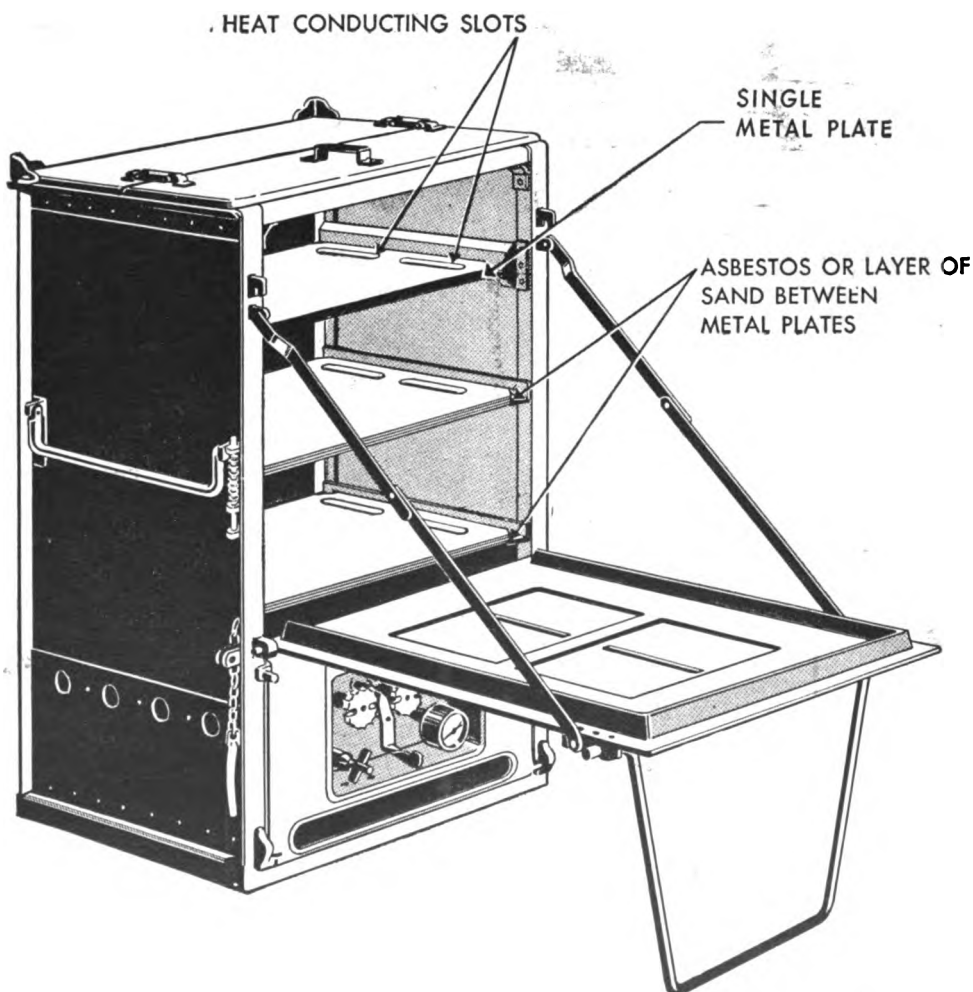

Figure 37. Range, field, M1937, adapted for baking bread.
a. METHOD NO. 1. (BREAD AND PASTRY). (1) The most satisfactory method of adapting the range for baking bread is to construct three solid shelves and fit them to the rails in the range. (See fig. 37). This method triples the ordinary baking capacity of the range.
the side and  $1\frac{1}{4}$  inches from the ends. Cut the front corners  $1\frac{1}{2}$  inches from front and side, as illustrated in figure 37.